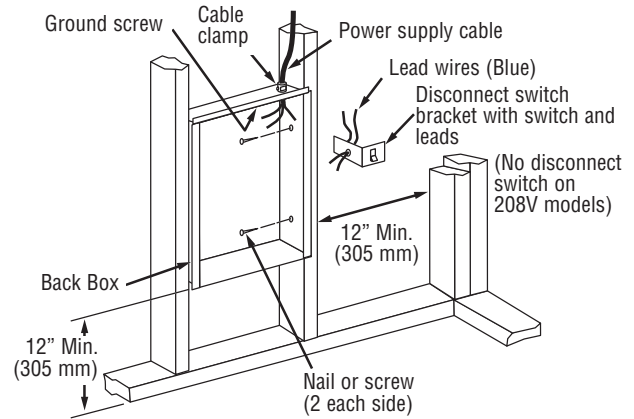

Figure 1: Locating Back Box in New Construction
Installation of Back Box in New Construction (See Figure 1).
3. Secure the back box in position with wood screws or nails as shown in Figure 1.
4. Run a power supply cable into the knockout area in the upper right hand corner of the back box (see Figure 1). All wiring must be in accordance with National and Local Electrical Codes. Refer to Specifications for correct wire size.